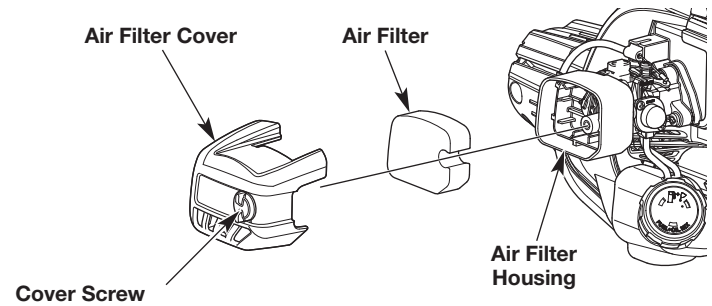

Fig. 19
1. Open the air filter cover by unscrewing the cover screw (Fig. 19).
2. Remove the air filter from the air filter housing (Fig. 19).
6. Reinstall the air filter in the air filter housing (Fig. 19).